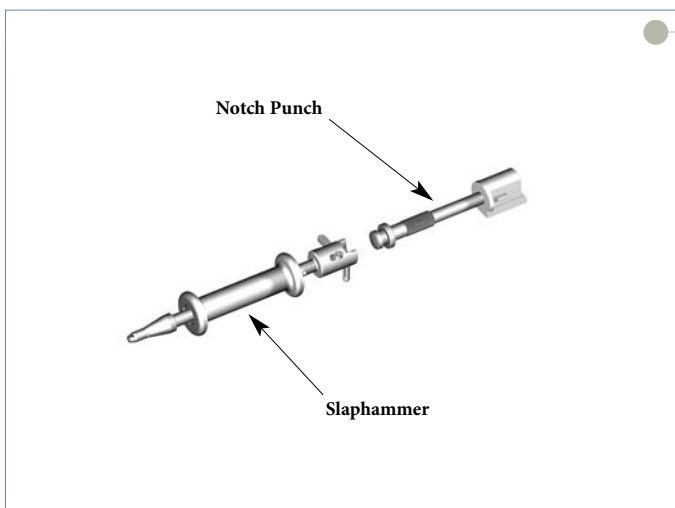

Figure 26
- ▶ Remove the Compactor from the tracks with a Slaphammer if necessary (Figure 26).